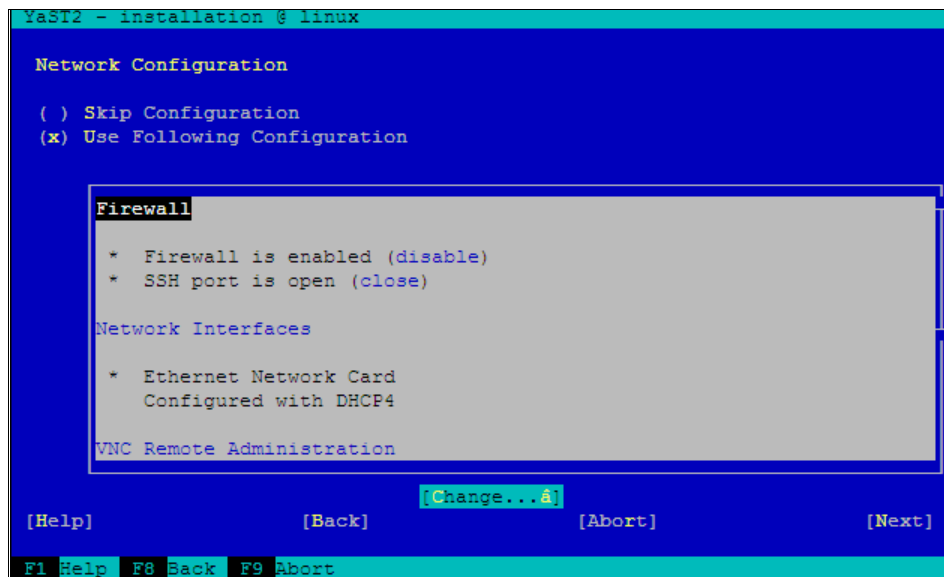

Figure 9-32 SSH port is open
- f. Now the Firewall section of the Network Configuration window (Figure 9-32) shows “SSH port is open.”